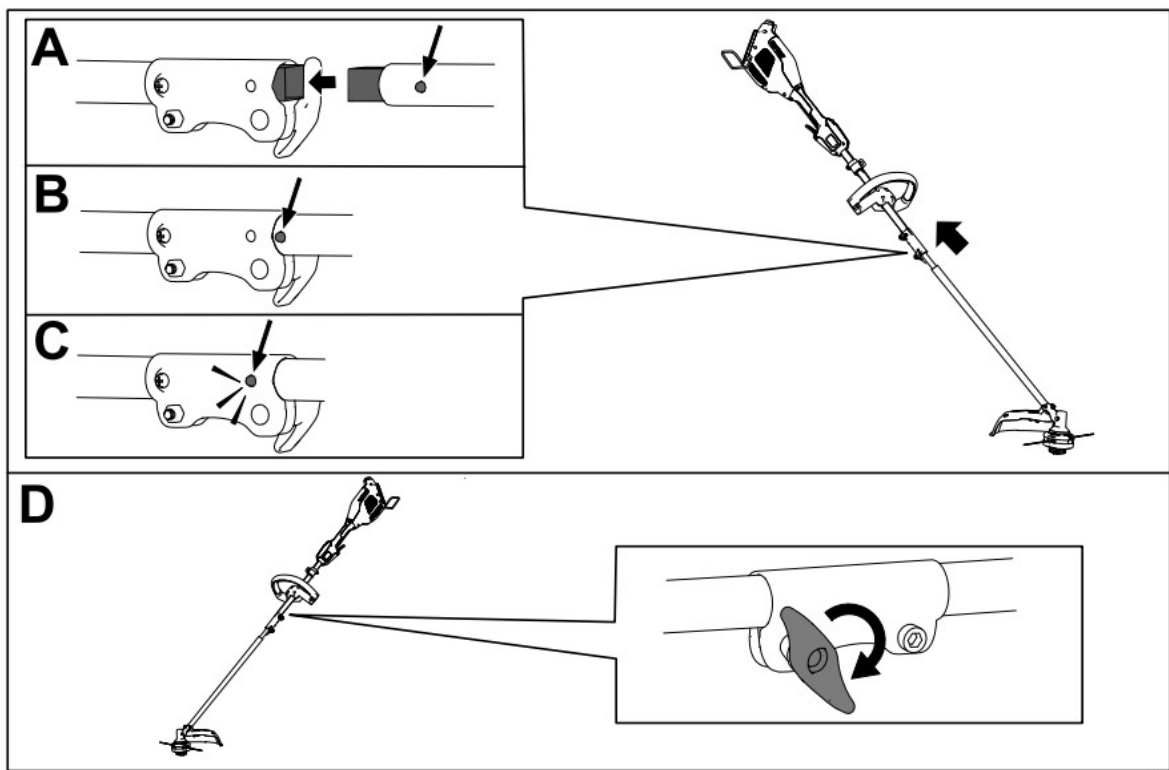

Figure 3
1. Install the square shaft of the attachment into the square shaft of the power head (A of Figure 3).
2. Align the locking button on the lower shaft with the slotted hole on the upper shaft and slide the 2 shafts together (B and C of Figure 3).
3. The locking button clicks into the slotted hole when the shafts are secured (C of Figure 3).
4. Using the screw-handle, tighten the screw on the shaft connector until it is secure (D of Figure 3).
2. Loosen the screw-handle on the shaft connector (Figure 3).
3. Press the locking button down while pulling the 2 shafts apart (Figure 3).